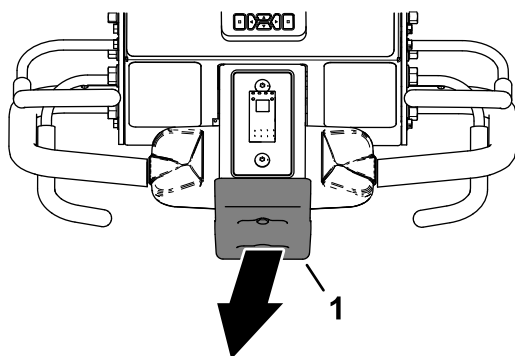

Figure 92
2. Move away from the bump-stop switch (Figure 92).